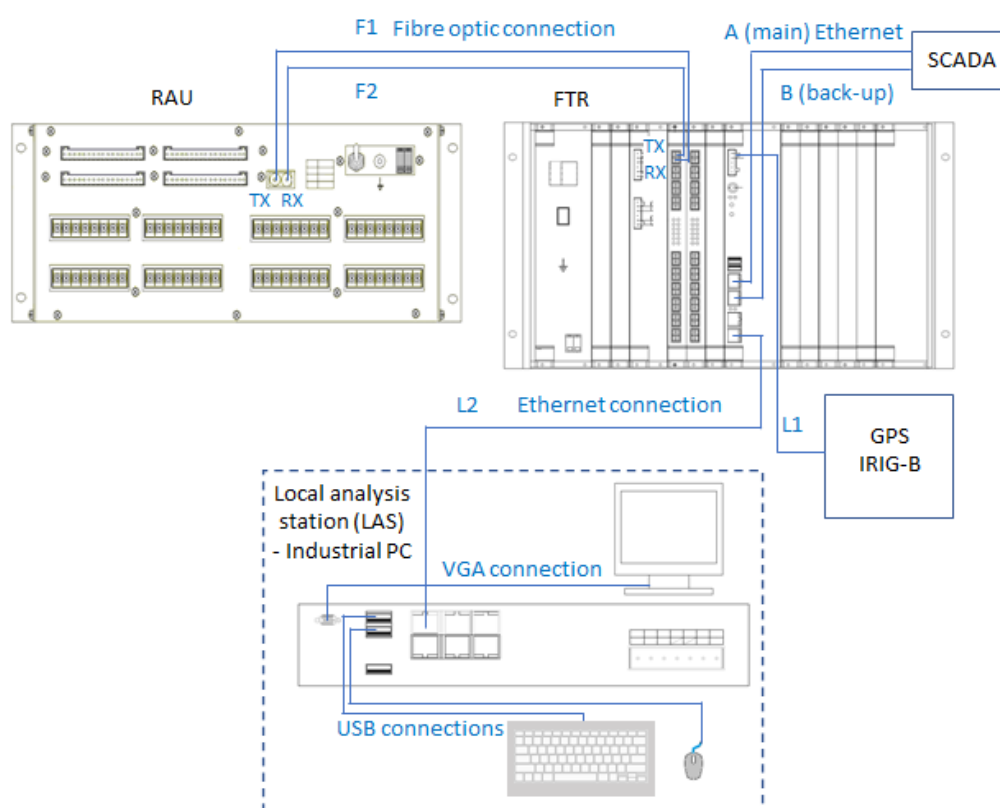

Figure 14.1 System connections
- iv. Check that the FTR-100 host, RAU Remote Acquisition Unit, LAS-100 Local Analysis Station, Video display Unit (VDU), keyboard and the sealing plate (if applicable) are correctly installed on to the panel, according to the connection diagram as shown in figure 14.1 (n.b. figure 14 is for illustration purposes only, individual schemes may vary). Check that the following are connected: